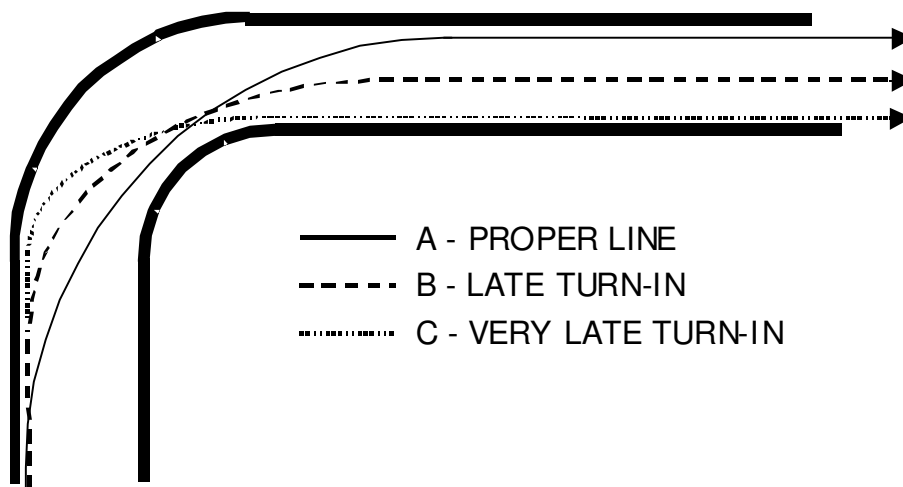

FIGURE 16
If we're approaching a corner for the first time it's advisable to turn-in at a point that is obviously late, such as line C in Figure 16. As we guide the car past the apex and unwind the steering wheel there will be a great deal of room left at track-out. Our hands have done the right thing, but in the wrong place. If we'd in fact driven the car out to the proper track-out point we'd find that our hands had turned in, straightened past the apex to get to the outside of the track, and then turned again at the track-out point. On our next lap we'll turn-in somewhat earlier (B), and discover that we reduced the amount of extra room at track-out, but still haven't eliminated it. Thus we continue, progressively, to turn in less and less late until we arrive at the best possible line.